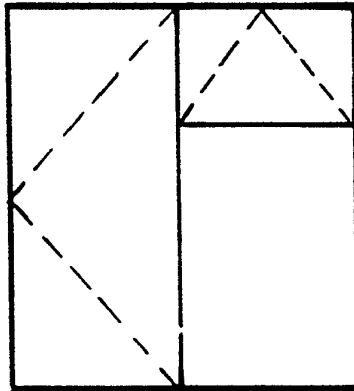

Fig. 1
1. Figure 1 shows the outline of a stormproof casement window.